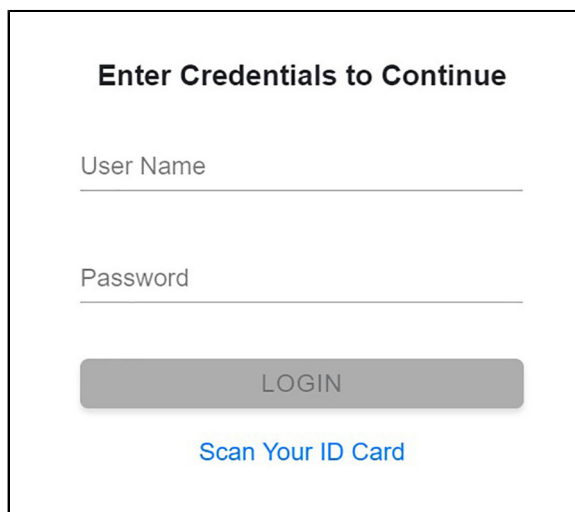

Figure 19. Enter Credentials to Continue Screen
7. Depending on your configuration, the Enter Credentials to Continue screen may appear (see Figure 19). If enabled, you may log in by scanning your institutional ID. Otherwise, manually enter your User Name and Password and touch **LOGIN** to continue.